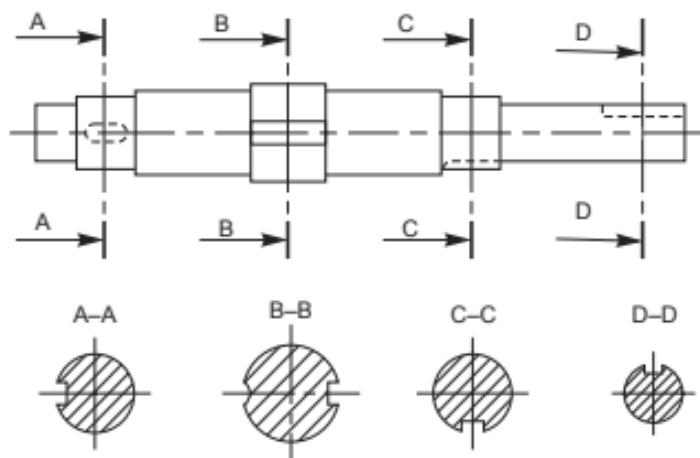

**Fig. 2.23** Half section
1. Half Section: Symmetrical parts may be drawn, half in plain view and half in section (Fig 2.23).